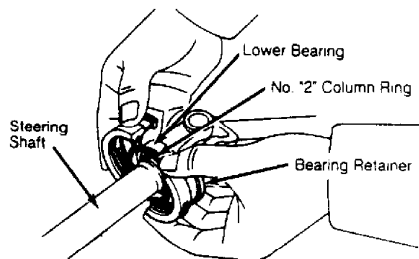

Fig. 4: Installing Lower Bearing Assembly
2) Install lower bearing and lower bearing snap ring. Place No. 2 column ring into position next to bearing on side nearest center of shaft. See Fig. 4.